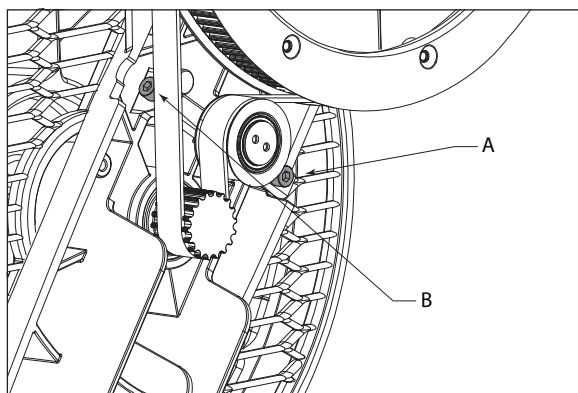

FIGURE 5.2
2. Loosen the belt tensioner lock screw 1/4 to 1/2 turn. (A in Figure 5.2)
3. Loosen the adjustment screw (B in Figure 5.2).
5. Tighten the belt tensioner lock screw to secure the belt tension. (A in Figure 5.2)